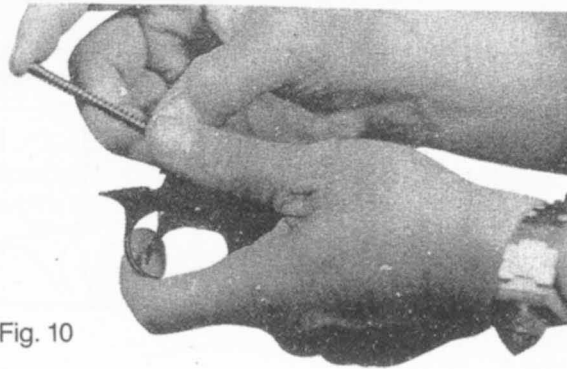

Fig. 10
4. To replace the recoil spring and recoil spring guide in the breechblock, proceed as follows: Holding the trigger guard and breechblock assembly in the left hand with the top side up and the rear of the trigger guard away from you (Fig. 10) insert the recoil spring into the recoil spring hole of the breechblock. Place the index finger of the right hand over the end of the recoil spring guide, at the same time holding the